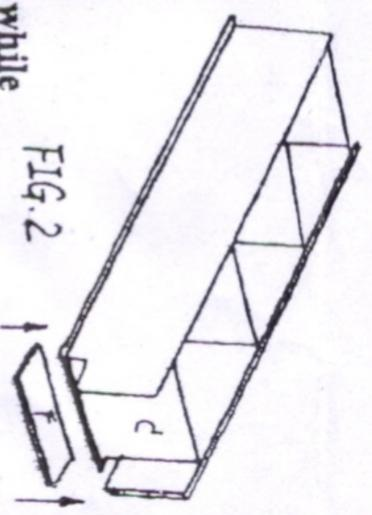

FIG. 2
STEP 2: Slide Fixed Shelves (C) (there are four pieces for "CLC" model and three pieces for "KL" model) into grooves of Side Panels (B). Attach Toe Kick panel (F) to the notch of Side Panels - Fig. 2